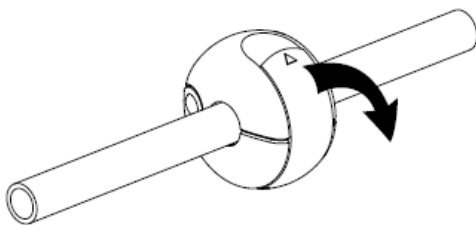

Fig. 5a
- Pull the lever to open the stop ball (1). (see Fig. 5a)